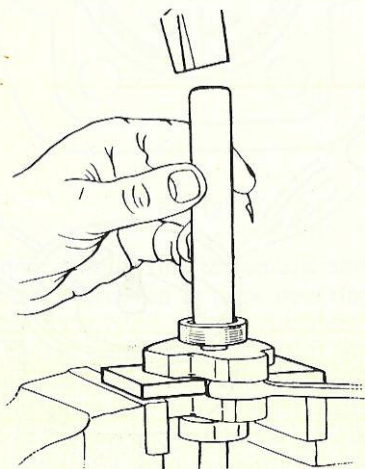

fig. 20
- place one web of crankshaft on fitting plate (nr. 10 on page 13) on vice and fit, bearing, using dolly (nr. 2 on page 13) on inner ring of bearing, as illustrated in fig. 20.